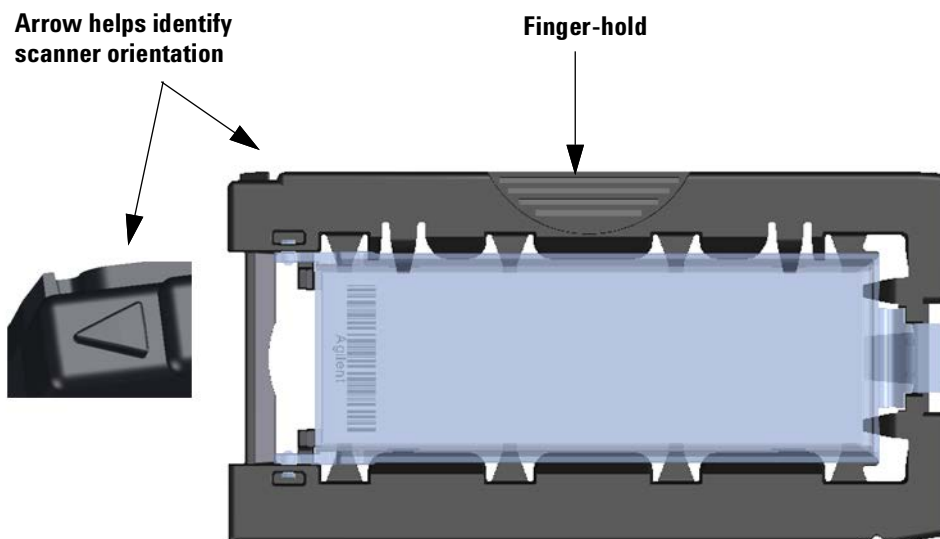

Figure 13 Slide holder helps you to insert slides correctly
- 2 Pick up the slide holder using the finger hold. The arrow on top of the slide holder points to the left when you pick up the slide holder correctly. See Figure 13.